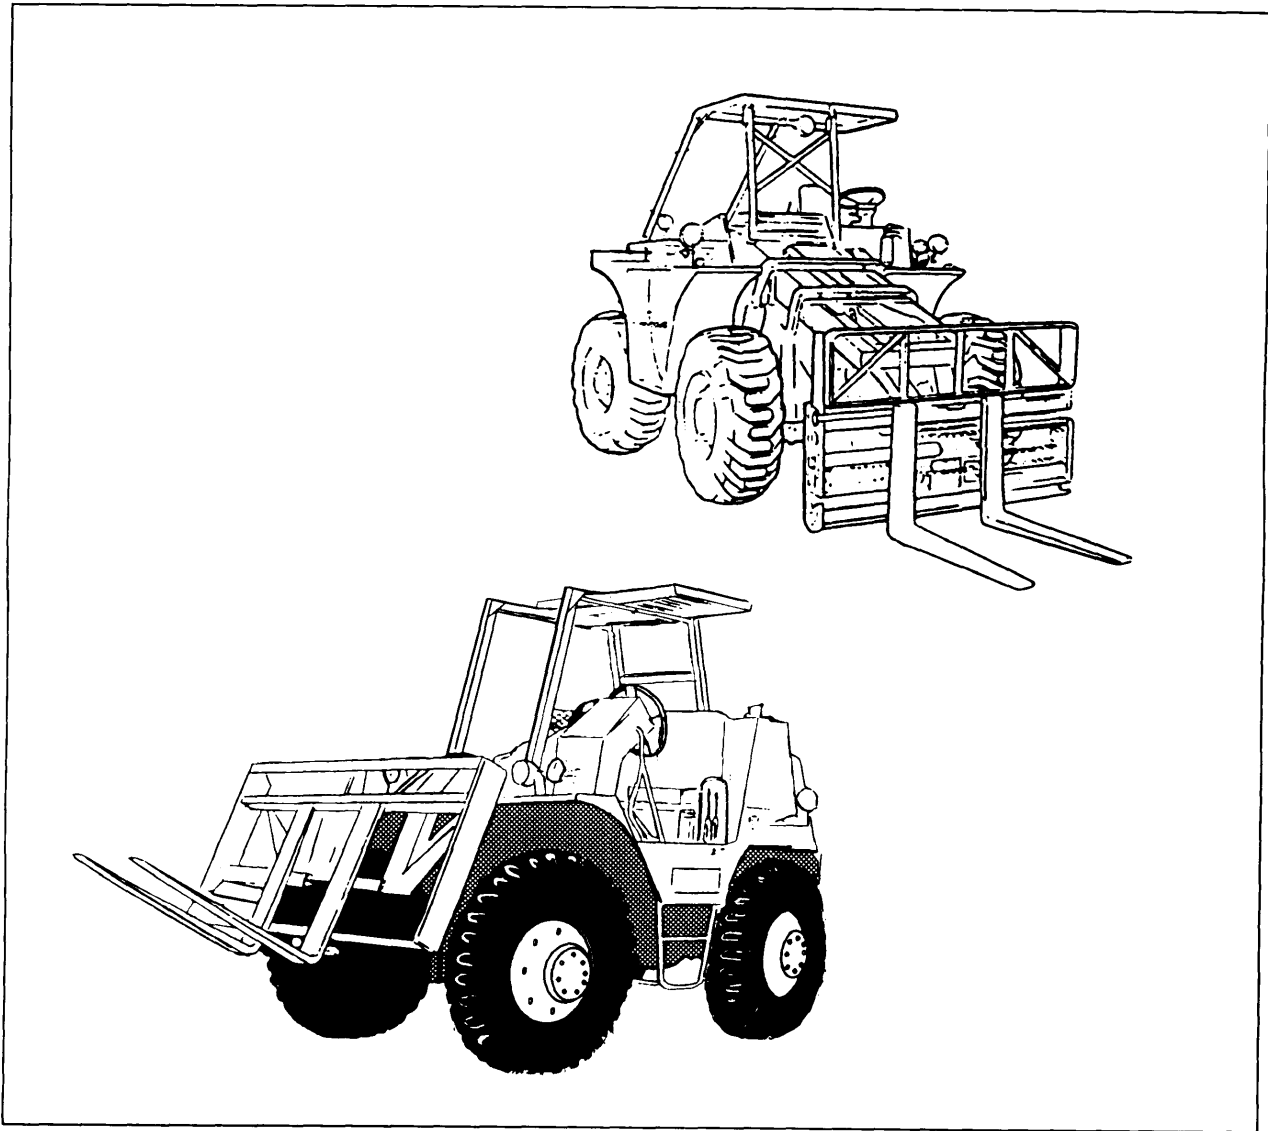

Figure 8-7.—6K rough-terrain (RT) forklifts.
The 6K rough-terrain (RT) forklifts (fig. 8-7) are all-wheel drive, all-wheel steer materials-handling equipment capable of lifting 6,000-pound loads to a height of 200 inches.